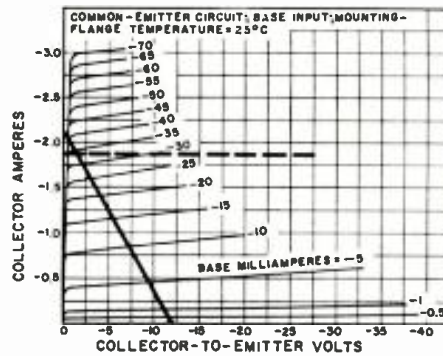
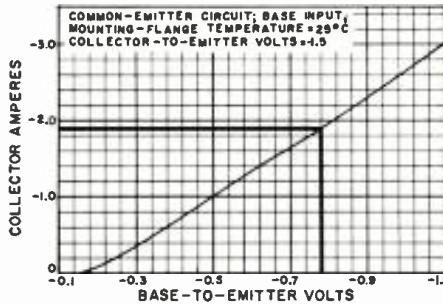
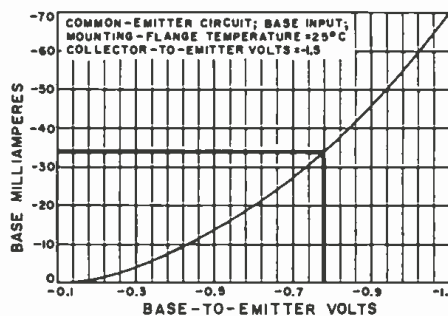
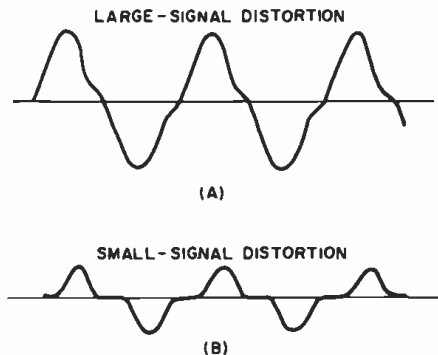

Fig. 1. Collector characteristics of 2N301.
Fig. 2. Transfer characteristics of 2N301.
Fig. 3. Base characteristics of the 2N301.
Fig. 5. The distortion due to the crossover.
A representative gate circuit is shown in Fig. 5. Gate tube V_3 has two input grids both of which are biased below cut-off. A mixer-type tube may be used in this application or, as shown in Fig. 5, a pentode may be used with the suppressor functioning as a second control grid. Positive pulses derived from the unknown frequency are applied to the suppressor, but V_3 produces no output because its control grid is still below cut-off.
The flip-flop is a direct-coupled (bi-stable) multivibrator biased sufficiently to prevent free-running operation. Initially, V_1 is below cut-off and V_2 is conducting. This condition is established by means of a push-button switch that removes the bias from V_2 . When a start pulse is applied however, V_2 is driven to cut-off and its increased plate voltage raises the grid of V_1 above the cut-off level. The circuit will now remain in this condition, V_1 conducting and V_2 below cut-off, until a stop pulse is applied. The stop pulse cuts off V_1 , and the increased plate voltage of this tube raises the grid of V_2 above cut-off. Since V_2 remains below cut-off during the interval between the start and stop pulses, its plate voltage remains high for this length of time. During this interval the plate of V_2 holds the control grid of V_1 above cut-off. As a result, each positive pulse at the suppressor produces an output pulse in the plate circuit of V_1 . As shown in Fig. 5, V_1 produces output pulses only during the interval that exists between the start pulse and the stop pulse.
Since the time-base generator produces a continuous series of pulses, additional circuitry is required to (1) select a pair of successive pulses to provide the start and stop functions and (2) to feed the selected start and stop pulses to the appropriate terminals of the circuit in Fig. 5. These functions are performed by the circuit shown in Fig. 6.
The lock-out binary of Fig. 6 controls the two pentode gate tubes so that one gate is open and the other is closed. Initially, the right-hand tube of the binary is conducting and the left-hand tube is below cut-off. This condition is established by means of the push-button switch which removes the bias from the right-hand grid (this is the same push-button that controls the flip-flop of Fig. 5). At this time, the start gate is open and the stop gate is closed. Since the left-hand tube of the lock-out binary is below cut-off, its plate voltage is high
When the push-button of Fig. 6 is released, the next positive pulse from the time-base generator passes through the start gate but not through the stop gate. The negative pulse that appears in the plate circuit of the start gate is applied to the start terminal of Fig. 5, opening the count gate and allowing the unknown frequency to feed through to the counting decades. In addition, the negative pulse from the start gate is applied to the right-hand tube of the lock-out binary. As a result, the right tube cuts off and the left tube conducts. The start gate is now closed and the stop gate is open. For this reason the next pulse from the time-base generator
passes through the stop gate but not through the start gate. The negative pulse that appears in the plate circuit of the stop gate is applied to the stop terminal of Fig. 5. The count gate now closes so that the unknown frequency can no longer feed through to the decade counters, and the decade indicator lamps now display the frequency being measured. The circuit remains in this condition, start gate closed and stop gate open, until manually reset by means of the push-button or automatically by a time-delay relay in the instrument.
At this point it is useful to study the characteristic curves of the transistor in question. Fig. 1 shows the collector characteristics for the 2N301 for various values of base current. The a.c. load line for the 6-ohm load resistance is drawn by connecting the 12-volt, zero-current point to the 2.1-amp., zero-voltage point. To calculate maximum power handling ability we have accounted for 25 per-cent overload capacity, but for normal operation the current and voltage swing will be limited by a factor:
Therefore, the normal full-load current swing will be only 2.1 amp. \times 0.896 = 1.88 amp., as shown by the dotted line in Fig. 1. Another curve, Fig. 2, shows the average transfer characteristic which is simply a plot of collector current vs base voltage. For 1.88 amps. of collector current, the base voltage will have to be 0.78 volt and this, on the base characteristic curve of Fig. 3, will cause a base current of 34 ma. The product of 34 ma. \times 0.78 volt is the input power, 26.5 mw.
Fig. 5 illustrates one of the most frequent defects in Class B transistor amplifiers and the technician working with these circuits will soon become quite familiar with the appearance of these distorted output signals. To understand the cause for crossover distortion we need only look at the average transfer characteristic curve of Fig. 2 and study the lower portion of the
The 2N301 characteristic curves of Figs. 2 and 3 indicate that a pre-bias of about -0.13 volt is required. Previously we calculated the peak input impedance to be about 23 ohms. The bias resistor should usually be about three times as large so we select a value of 68 ohms, a readily available and standard unit. By using Ohm's Law we find the current through the resistor to be 1.91 ma. At 0.13 volt the base current itself is practically zero so that only about 2 ma. will flow in the bias resistor. Because of the variations among individual transistors and other circuit constants, it is advisable to include a potentiometer in the bias voltage divider and set the actual voltage level for minimum collector current, commensurate with minimum crossover distortion.
As the temperature goes up, more current flows. As current flows, heat is generated in the transistor. These two facts impose a severe restriction on the circuit designer, especially when germanium transistors are used where the critical temperatures are relatively close to room temperature. Silicon devices have a somewhat higher critical temperature. The transistor characteristic curves of Figs. 1, 2, and 3 all bear the notation "mounting flange temperature 25°C" and this means that at a higher or lower temperature the characteristics shown may be changed somewhat.